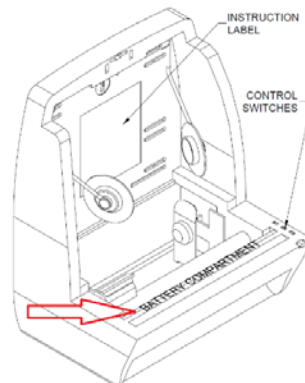

Fig. 3
3. If using mechanism for battery operation, install 8372 mechanism with four (4) 1/4-20x3/8 Phillips pan head screws through slots marked  into tapped holes in cabinet back and continue onto step 4 below. **For AC (plug-in) operation, go to next page.**
4. The battery compartment is located at the front lip of the mechanism (Fig. 3). The cover to the battery compartment is removed by pushing the left hand tab inward and lifting up.